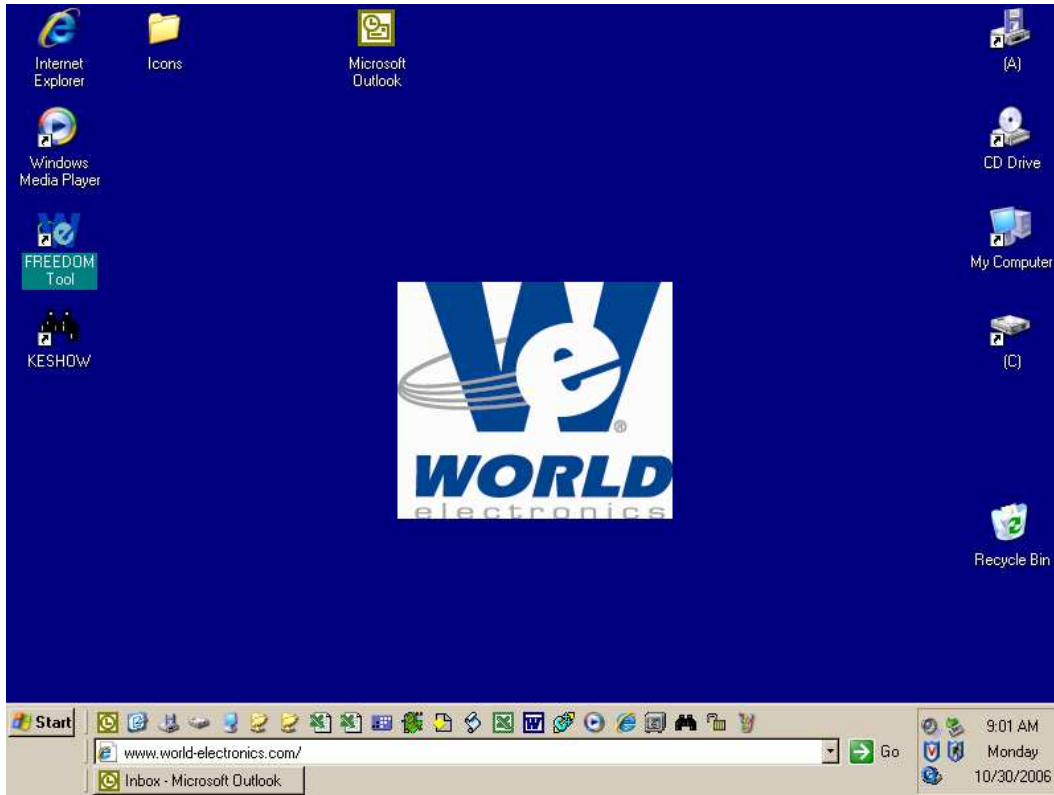

Figure 14
2. From the Microsoft Windows Desktop Screen select the **FREEDOM Tool** Icon by using the pointing device to position the cursor directly over the **FREEDOM Tool** Icon and double clicking the pointing device button. Refer to Figure 14.